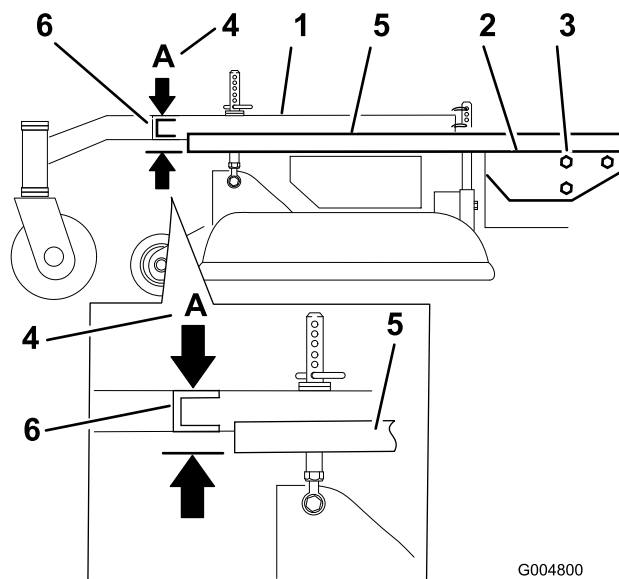

Figure 66
3. Place a long straight edge on top of the engine deck as shown in Figure 66.
4. At the carrier frame cross channel, measure the height at location **A** (Figure 66). This measurement must be 1-5/16 inch (33 mm), plus or minus a 1/4 inch (6 mm).
6. Loosen the carrier frame mounting bolts on both sides of the machine (Figure 66).
7. Align the carrier frame and engine deck to match 1-5/16 inch (33 mm), plus or minus a 1/4 inch (6 mm) at location **A** (Figure 66).